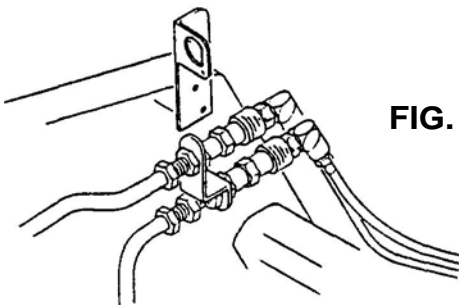

FIG. 16
- (1) Attach the wire harness receptacle mount to the inside of the L.H. loader lift arm in the same area as the bracket for the remote outlets. See FIG. 16